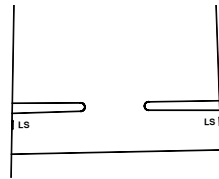

Fig. 5
- For standard U.S. 8 1/2" X 11" and 8 1/2" X 14" legal paper, move both paper guides in so that their inside edges align with the straight marks on the feed table denoted LS (see Fig. 5 for mark location). For A4 paper, align the *outside edges* of the paper guides with the straight marks denoted A4. Tighten both thumbscrews (Note: Do not over tighten thumbscrews).